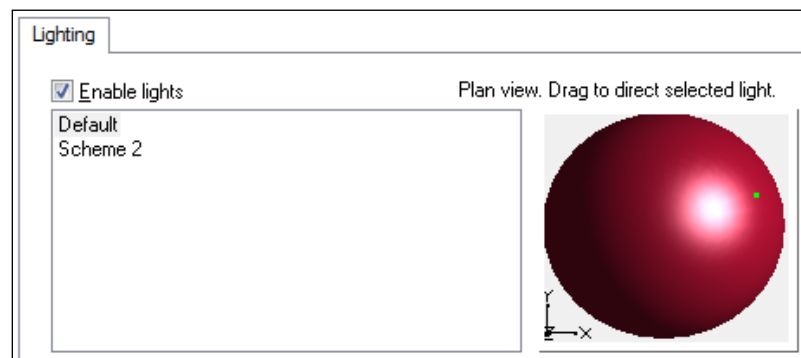

Figure 4 Lighting Options settings
7. Drag the selected light sphere so it appears as in Figure 4.